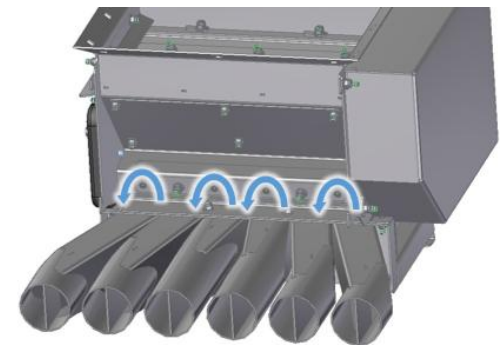

Figure 40
- To move the brush closer to the seeding shaft, these 4 bolts must be loosened counterclockwise. By turning to the left, the brush is moved further towards the seeding shaft and this scrapes finer seeds off better (see Figure 40).